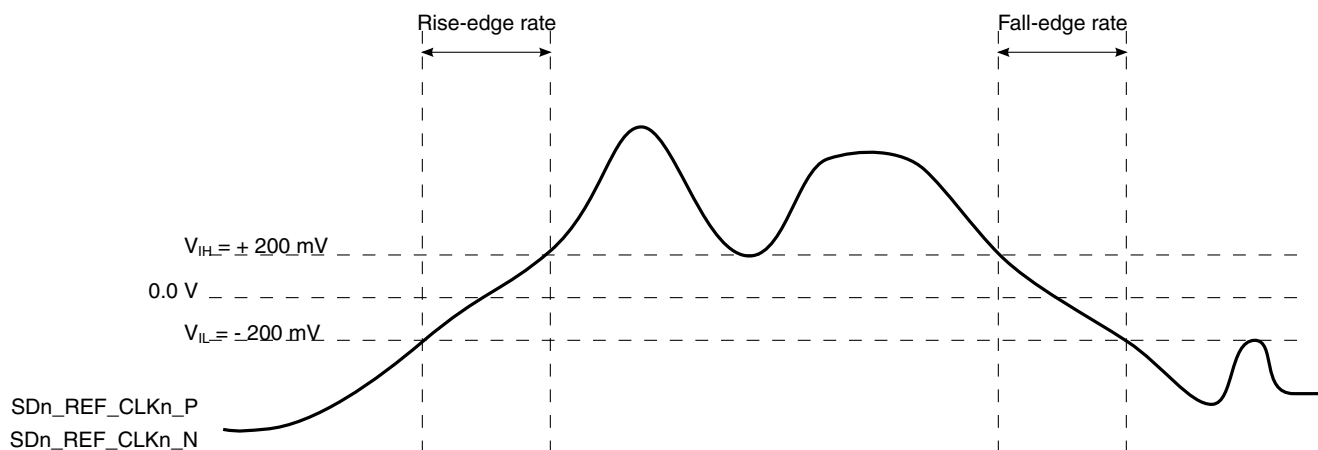

Figure 72. Differential measurement points for rise and fall time
- Measured from -200 mV to +200 mV on the differential waveform (derived from minus). The signal must be monotonic through the measurement region for rise and fall time. The 400 mV measurement window is centered on the differential zero crossing. See Figure 72.